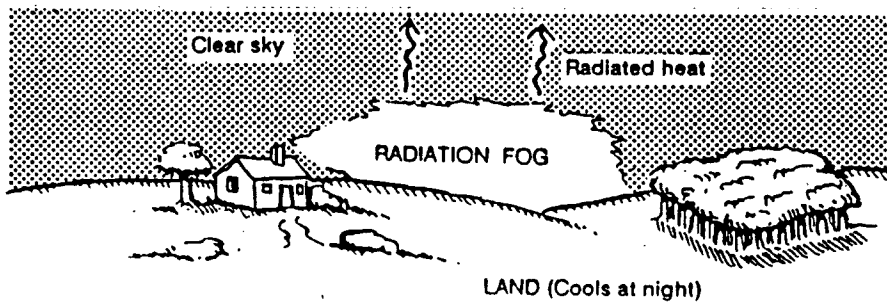

Fig. 316.
Springs. Spring tides occur when the sun, moon and earth are in line (A and B in Figure 316). In 'A', the combined pull of the sun and the moon are in the same direction. Coupled with the centrifugal force acting in exactly the opposite direction, a larger than normal swelling or bulging of the seas nearest the directions of those forces is caused. Therefore a correspondingly lower low level of seas off to the sides of the earth results. If the moon is still in line but at the opposite side of the earth (B) so as to pull in line with the centrifugal forces, the same thing happens, but the tide levels (high and low) will not be quite the same (as high and as low).